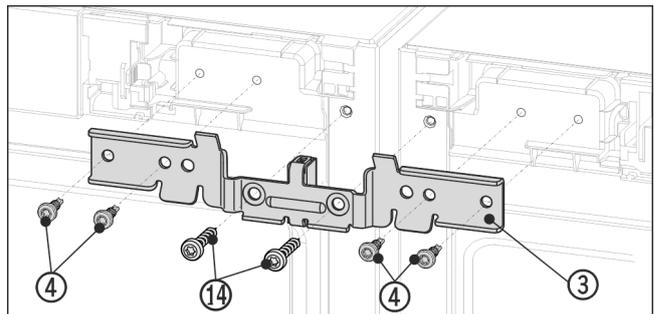

Fig. 13 Example illustration
- ▶ Slide the bracket Fig. 13 (3) onto the pins with the spacer between the appliances. Loosely screw in the brackets alternately right and left with four screws Fig. 13 (4) and the previously removed earthing screws Fig. 13 (14).